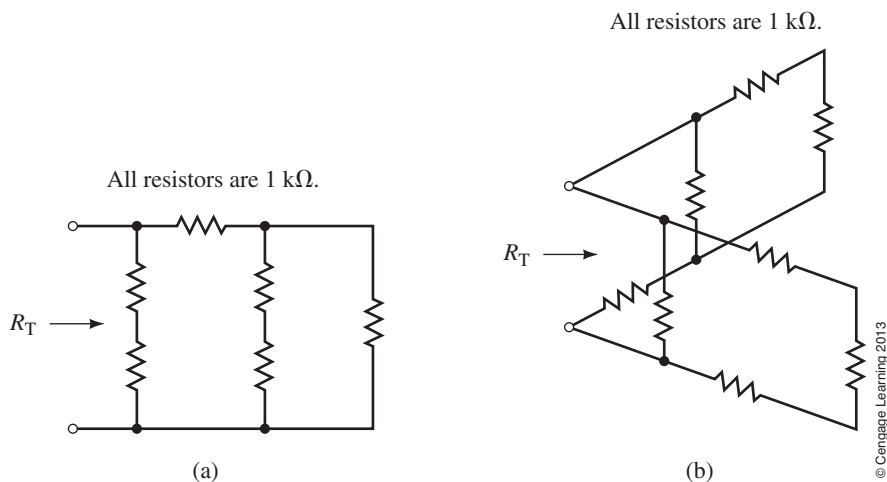

FIGURE 7–51
8. Determine the total resistance of each network in Figure 7–51.
9. Calculate the resistances R_{ab} and R_{cd} in the circuit of Figure 7–52.